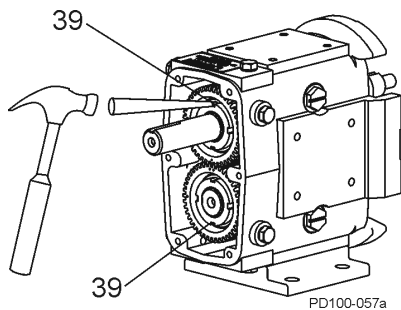

Figure 39 - Straighten Lock Tab
1. Straighten the tab on the lock washers (Figure 39, item 39).